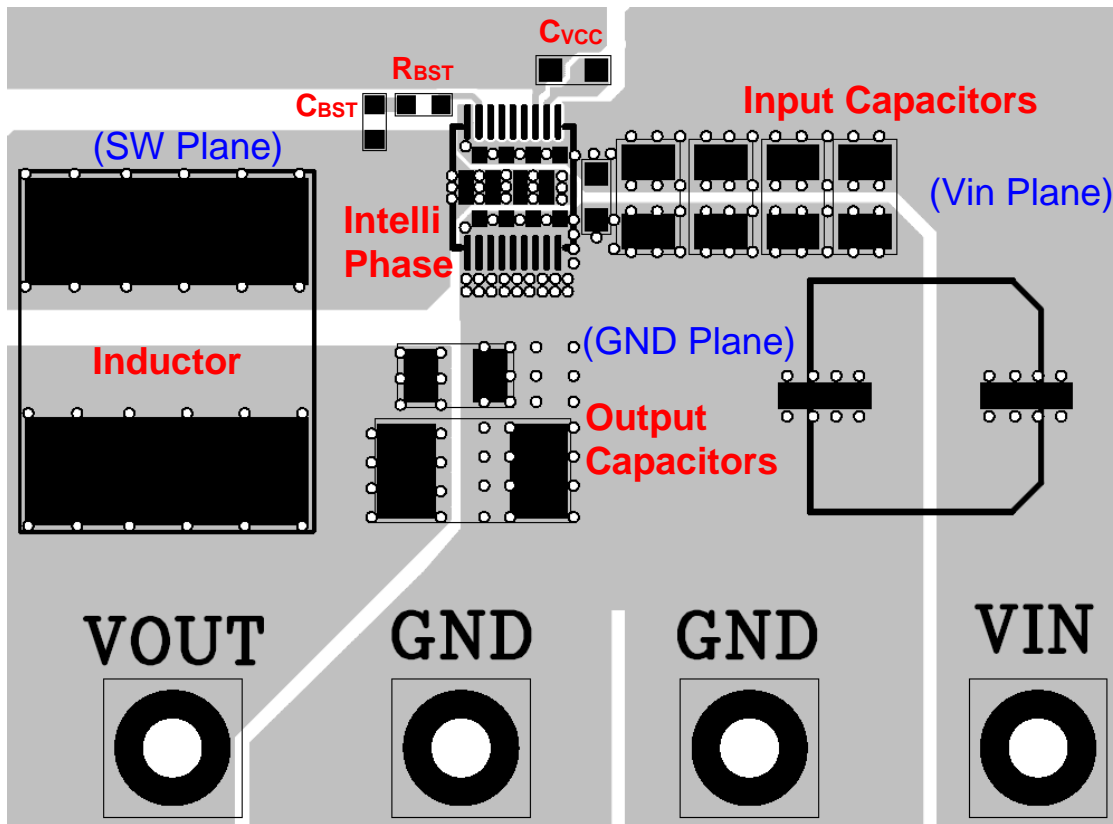

Figure 4—Copper Area Guideline
5) Connect IN, SW and GND to large copper area and use vias to cool the chip to improve thermal performance and long-term reliability. See Figure 4 as an example.